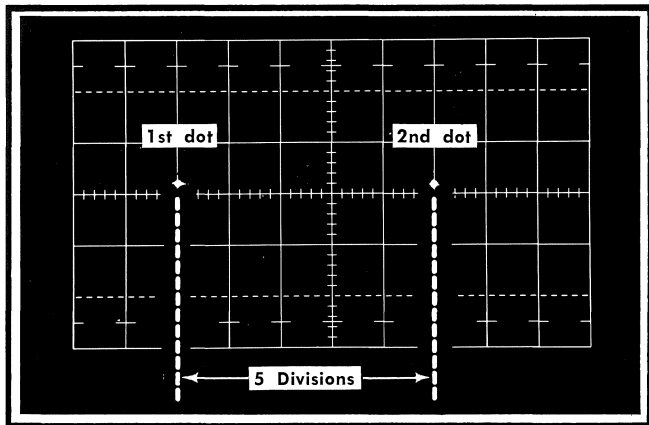

Fig. 7-18. Typical CRT display for calibrating Oscilloscope Ext Horizontal.
c. Adjust the Horizontal Position control and observe two dots as shown in Fig. 7-18.